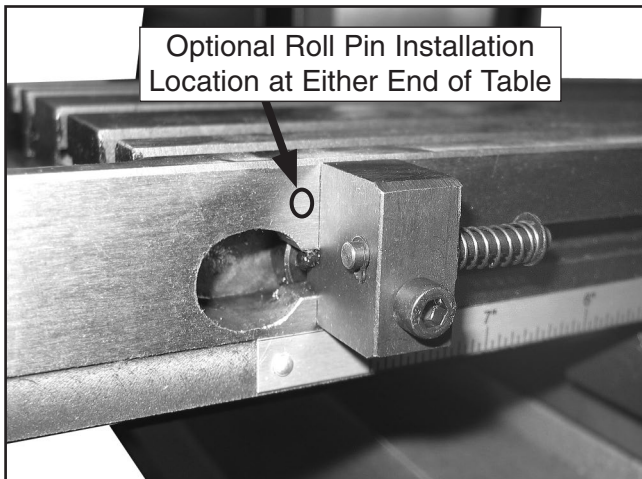

Figure 17. Feed stop and optional pin location.
24. Install the appropriate left and right feed stops for your milling machine into the table slot, as shown in **Figure 17**.